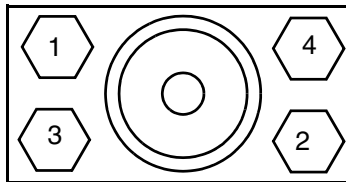

Figure 61. Bonnet Bolt Torquing Sequence
5. Tighten all bonnet bolts to 2.8 N•m (2 lb•ft) per the sequence shown in Figure 61.